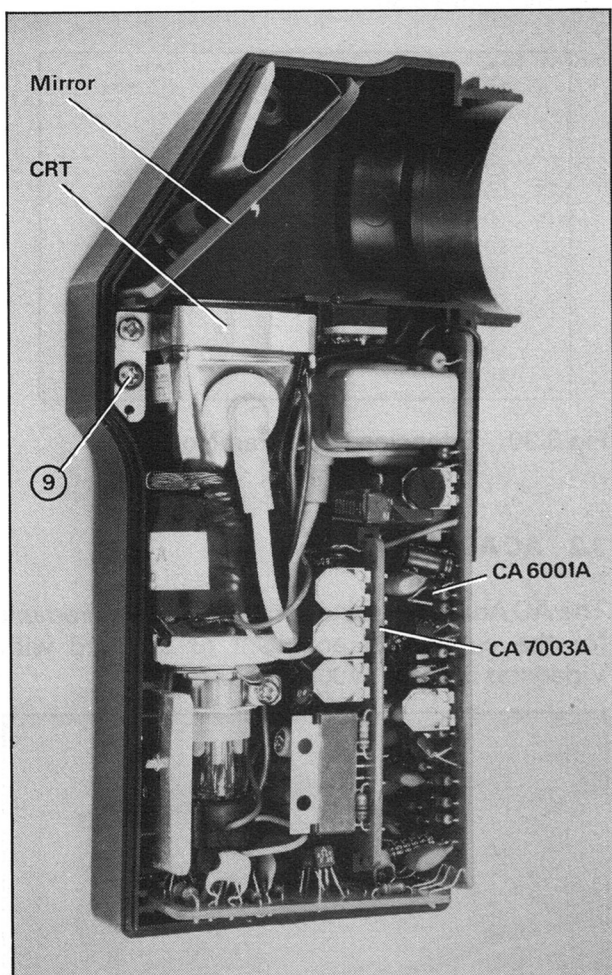

Fig 3.24 Viewfinder with Half of Case Removed
One complete half of the viewfinder case may now be removed to reveal the component parts of the viewfinder retained in the other half of the case, as shown in Figure 3.24. When removing the one half of the case, care must be taken to prevent the lens from falling from its housing.
- (4) Remove the one screw ⑨ shown in Figure 3.24 and pull the CRT and PCBs assembly clear.